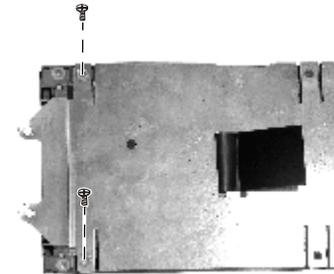

Figure 2-13 Free the hard disk
6. To free the hard disk drive, remove two screws that secure the holding. (Figure 2-13)